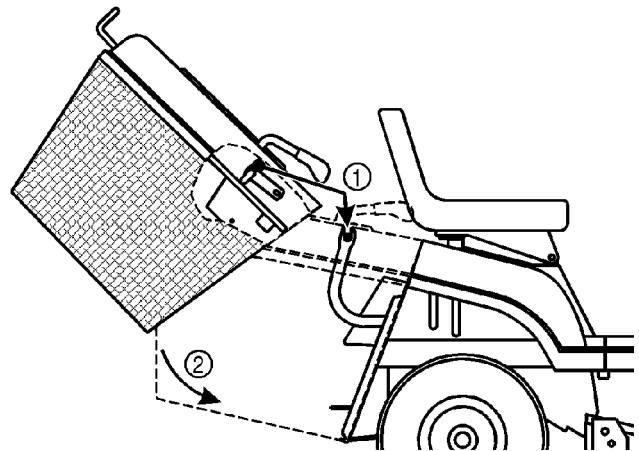

Figure 41
1. Using two hands, tip the grass collector forward (Fig. 41).
2. Tip the collector forward approximately 40 degrees and slide it onto the two support brackets at the rear of the tractor (Fig. 41). Ensure the arrow on the top of the grass collector aligns with the arrow on the tractor.